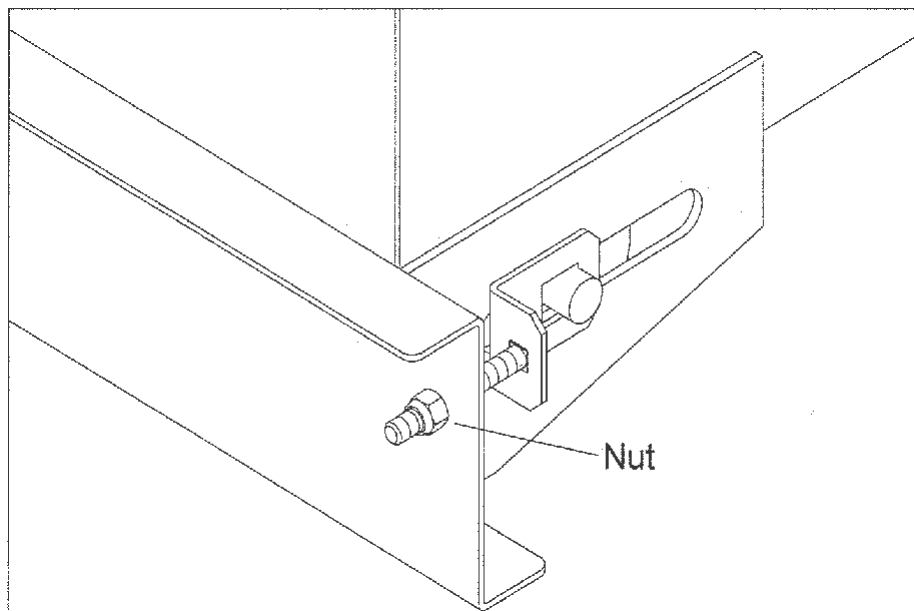

Figure 3B - Adjusting the Floor Apron Chain
2. If you can lift it higher than five (5) inches, the chain is too loose.
3. If you cannot lift it higher than three (3) inches, the chain is too tight.
4. If the chain needs adjustment, turn the front nut clockwise or counter-clockwise until correct tension/tightness is achieved. (See Figure 3B.) Repeat for the other side. Make sure that the chains on each side of the apron are equally taut.